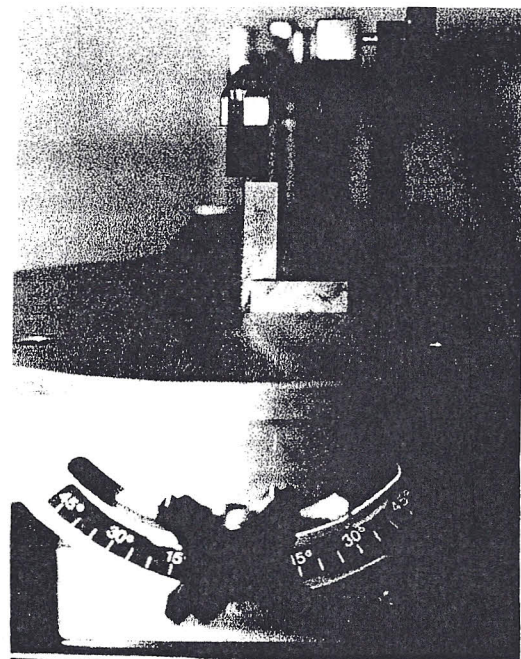

FIG. 14
4. When the square fits perfectly against the blade, tighten the table tilt knob. (Fig. 14)